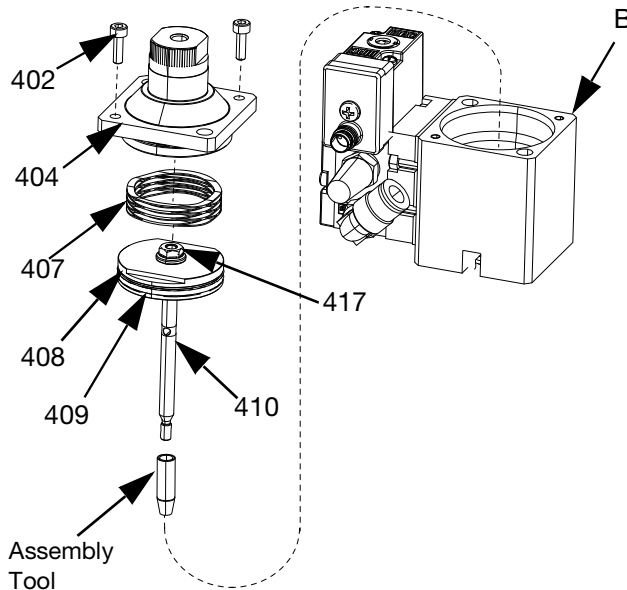

FIG. 22
3. To assemble the Air Section (B) on valves with ball-seat or tip seal assemblies:
- a. Replace the piston o-ring (408) if it is scratched, cut, or worn. See FIG. 22.
- b. Apply the assembly tool to the tip of the piston rod (410), then insert it into the Air Section (B). See FIG. 22.
- d. Place the spring (407) on the top of the piston (409). See FIG. 22. Replace the air cylinder cap (404) and insert the screws (402). Press down on the air cylinder cap (404) to compress the spring (407). Torque to 8-10 in-lbs (0.90 - 1.12 N•m).